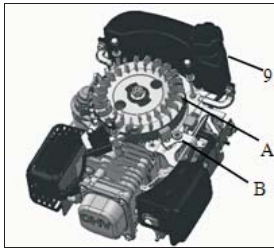

Fig12
4. Move the starter control handle (located on equipment) to release the flywheel brake, and verify that there is clearance between the governor arm and the throttle return rod when the throttle return rod when the throttles in the fast (or high) position. Also verify that there is at least 2 mm clearance between the stopper and the brake cable bracket. (See Fig. 12)